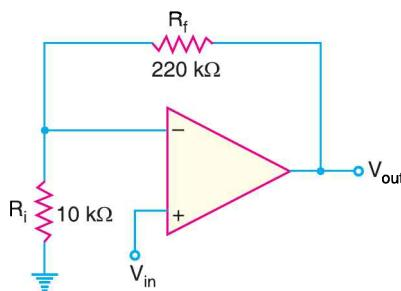

Fig. 25.68
**Example 25.41.** (i) Determine the input and output impedances of the amplifier in Fig. 25.68. The OP-amp data sheet gives  $Z_{in} = 2 \text{ M}\Omega$ ,  $Z_{out} = 75 \Omega$  and open loop gain of 200,000.